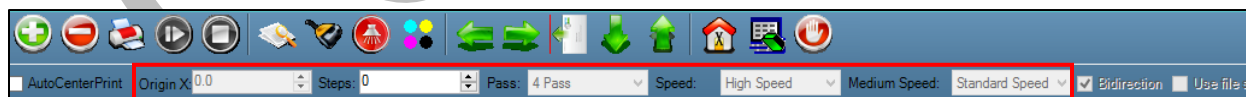

Fig 32: Setting Printing Parameters
**Step 1:** Select the desired pass from the list and click on the **Print** button (Refer to Fig 32).
**Step 2:** Feed the correction value in the **Revise** field (the correction value up to two decimal places) (Refer to Fig 32).
**Step 3:** Click on the => icon (Refer to Fig 32) on the Step Calibration window. The correction value result will be reflected in the **Step** field (Refer to Fig 32). The same step value will also be displayed in the **Steps** field on the **Quick Access Toolbar**.
**Step 2:** Navigate to the location where the image file with extension **".prt"** and **".prn"** is stored (Refer to Fig 32).